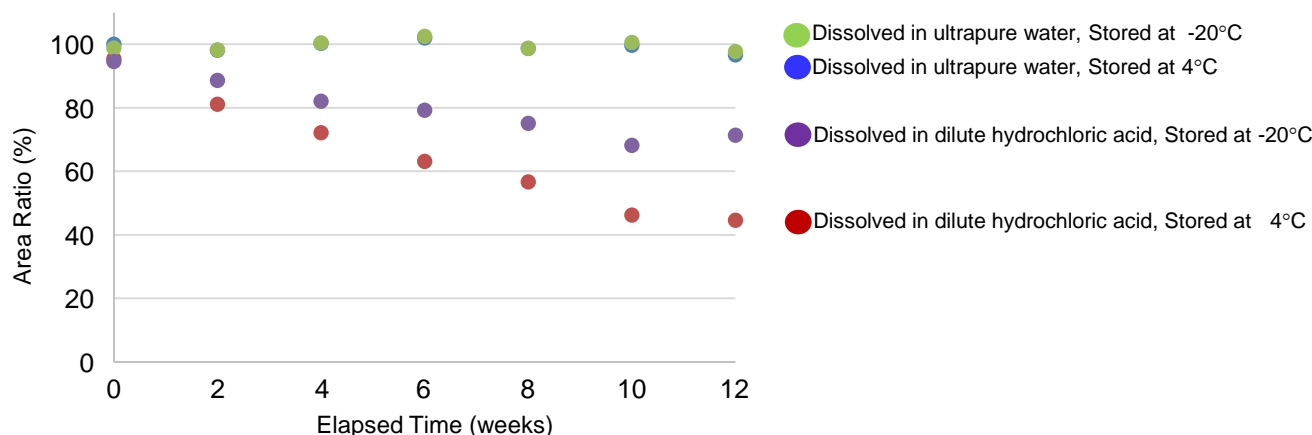

Figure 6 Variation with Time for Glutamine
- ✓ The concentration of glutamine dissolved in dilute hydrochloric acid decreased gradually. However, the change was suppressed when ultrapure water was used for the dilution (Figure 6).